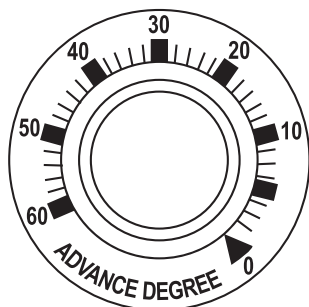

FIGURE 4.
3. Observe the reading from advance scale as shown on figure 4.